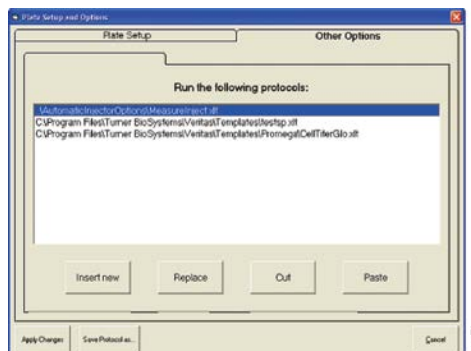

Figure 16. Selecting the order of execution for each subprotocol of a Super Protocol.
3. Click on “Options” then the “Other Options” tab to assemble the order of execution for each individual sub-protocol (Figure 16).